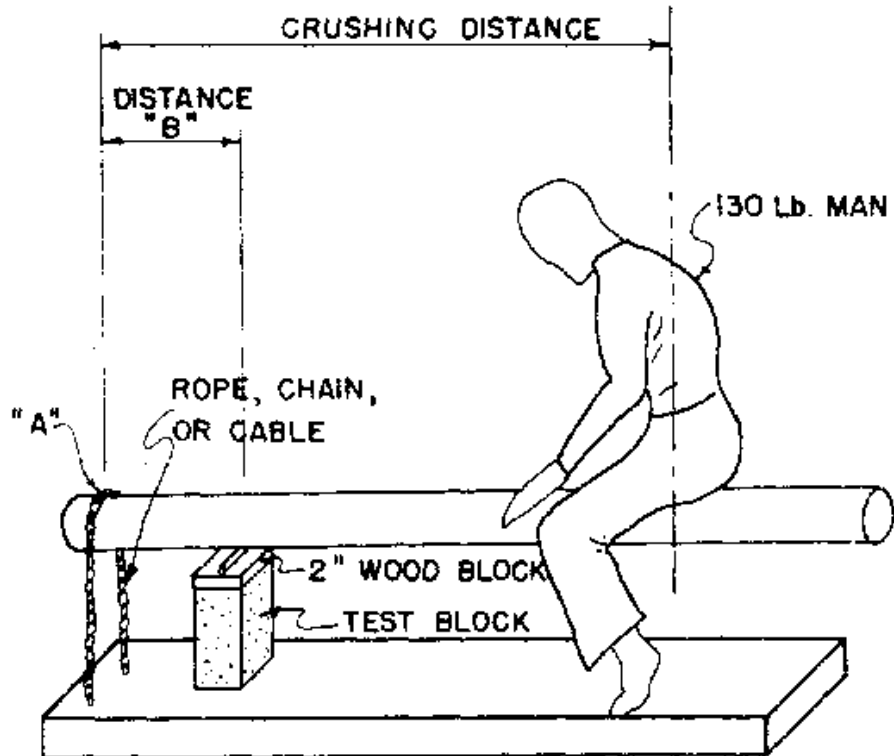
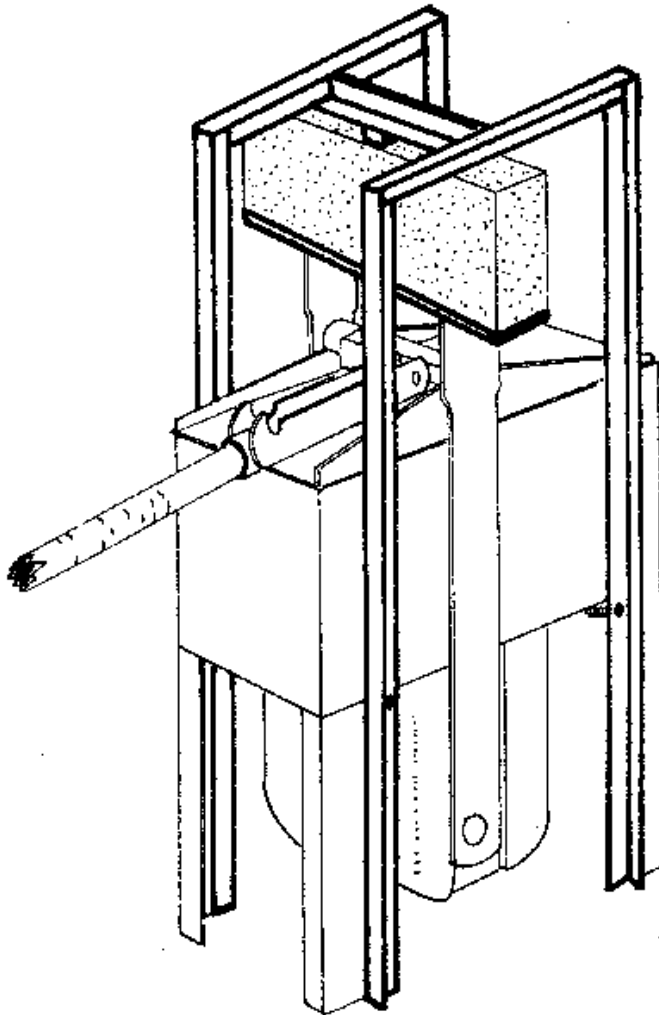

Figure 15. Simple lever test for determining strength of blocks (see Table 2).
Figure 17.
8. A form such as shown on Figure 17.
2. A way to apply and measure the load to crush the blocks. In commercial laboratories they use a machine. Another way is to use a hydraulic jack with a gage on it that will accurately measure the crushing load. You can also make an attachment for the CINVA-Ram block-making machine as shown in Figure 17 that will break the blocks. Note, that in this figure the block is not in the correct position for a compression test. You can also make a simple, lever type machine such as the one shown in Figure 15.
Using the lever arrangement shown in Figure 15, place the block the lever and apply the load. Figure 15 shows a 130-pound man sitting on the lever, but you could also hang a bucket of stones or water (or anything weighing 130 pounds) from the lever. Start with the man or weight close to the block and move slowly outward to the end of the lever until the block breaks. Then measure the distance from the end (or chain) to the weight. Call this the *Breaking Distance*. Form Table 2, you can find the crushing strength of the block. For in-between dimensions not shown in the Table, you can estimate with good accuracy.